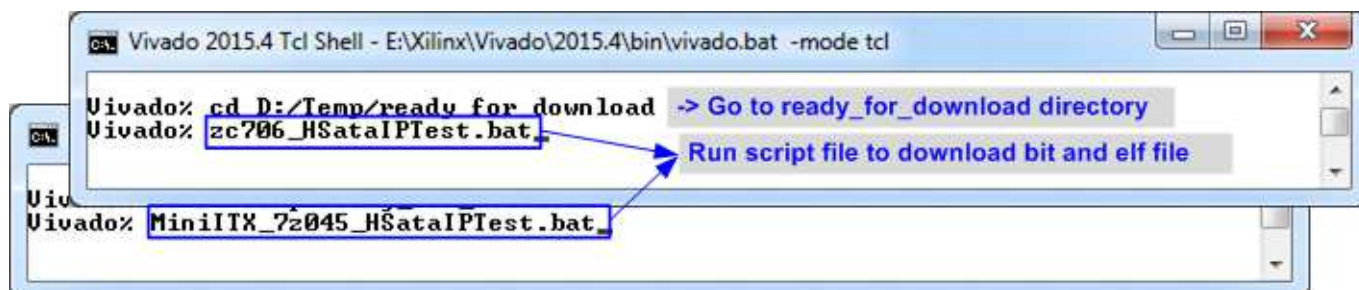

Figure 2-10 Command script for download demo file on Zynq device board
- 8) a) For Zynq device board (Zynq Mini-ITX/ZC706/ZCU102), open Vivado TCL shell. Change current directory to ready\_for\_download. Next, run BoardName\_HSataIPTest.bat (zc706\_HSataIPTest.bat, zcu102\_HSataIPTest.bat, MiniITX\_7z045\_HSataIPTest.bat), as shown in Figure 2-10